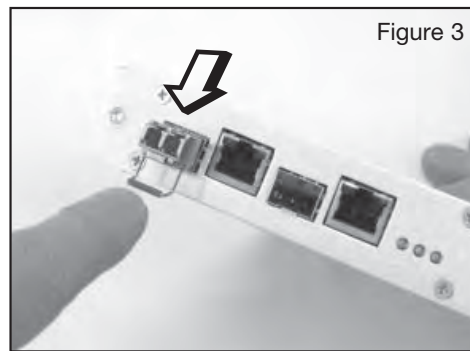

Figure 3
- Step 2** - Open the bale clasp on the SFP sub-module by pressing it down with your index finger as shown in Figure 3.